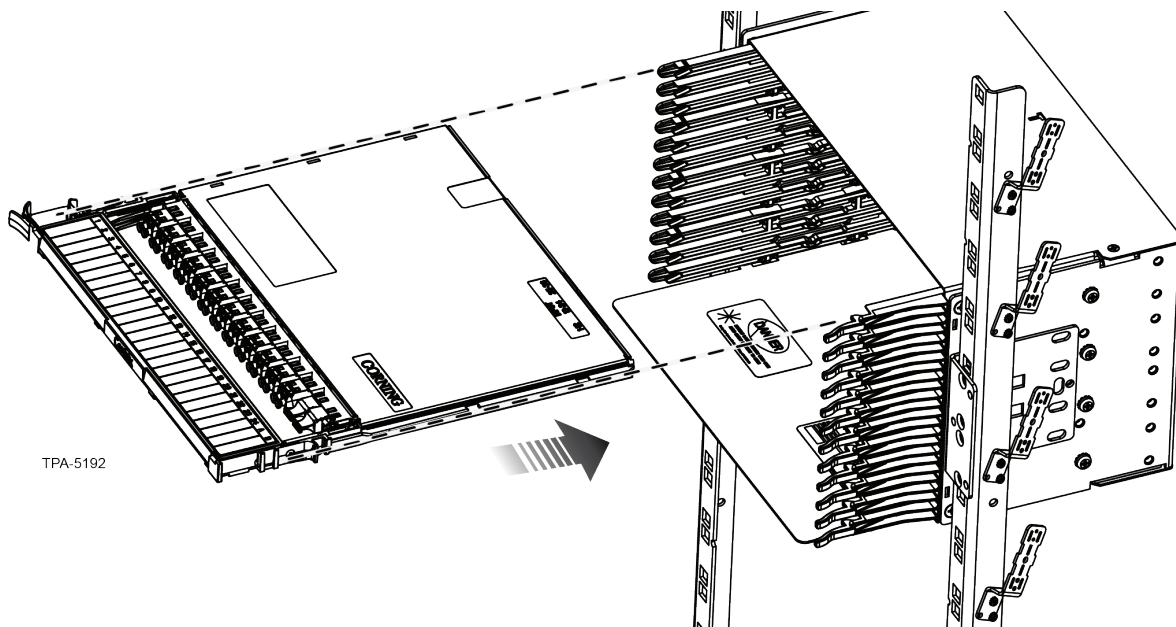

Figure 7
- Step 2:** Insert front cable access modules into the housing, starting at the top of the housing (Figure 7).